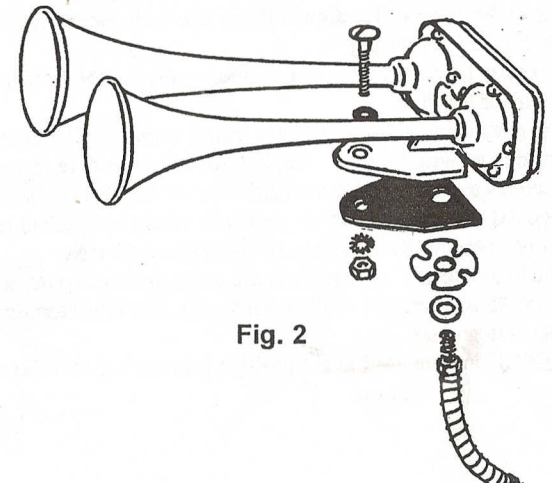

Fig. 2
3. Mount horn as shown on Fig. 2. NOTE: TIGHTEN EVENLY AFTER THE FRONT BOLT AND FLEXIBLE INLET HOSE HAVE BEEN INSTALLED.